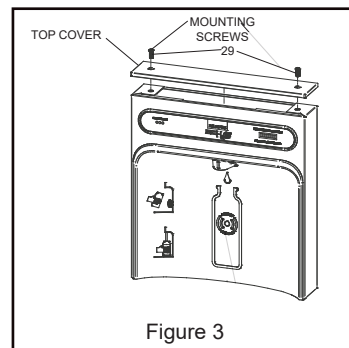
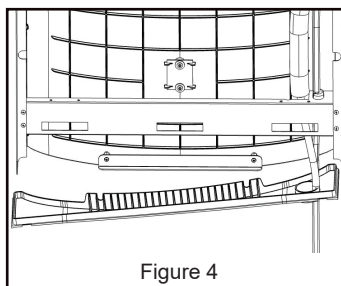

Figure 3
Figure 4
1. Remove two (2) mounting screws with 5/32" (4mm) Allen wrench holding top cover to Bottle Filler (see Fig 3). Remove top cover. Note: Do not discard mounting screws; they will be needed to reinstall top cover.
7. Feed power cord & 3/8" (10mm) water line through hole in tower/basin gasket (See Fig 4).
8. Once Bottle Filler is installed on wall plate tabs, water line, wire(s) and power cord are installed properly, push top of Bottle Filler toward wall and line up top cover two (2) holes.
9. Reinstall Top Cover on Bottle Filler (See Fig. 3) with two mounting screws from step 1 above. Caution: Do not over tighten screws.